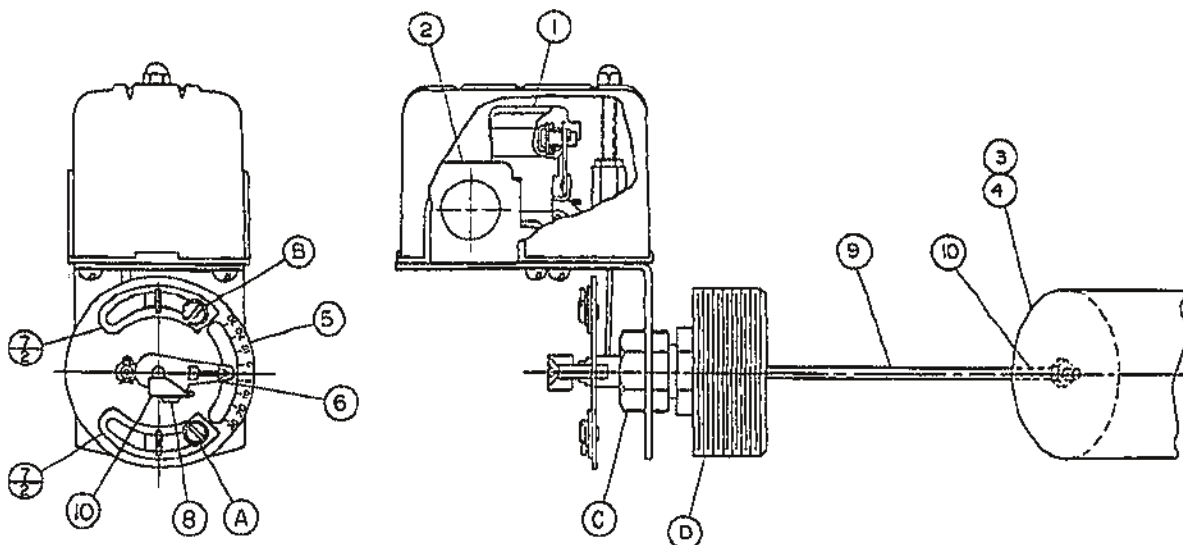

Figure 1 Class 9037 Type HG Series A Float Switch
To mount the float switch (refer to Figure 1):
Float switches are shipped from the factory set for a specified float travel. Some adjustment of float travel can be made in the field. Float travel is adjusted by moving one or both of the adjusting strips (item 7 in Figure 1), held in place by screws (items A and B).
Replacement parts for the Class 9037 Type HG Float Switch are listed in Table 1. For parts locations, see Figure 1 on page 1. When ordering parts, always give Class, Type and Form of switch.